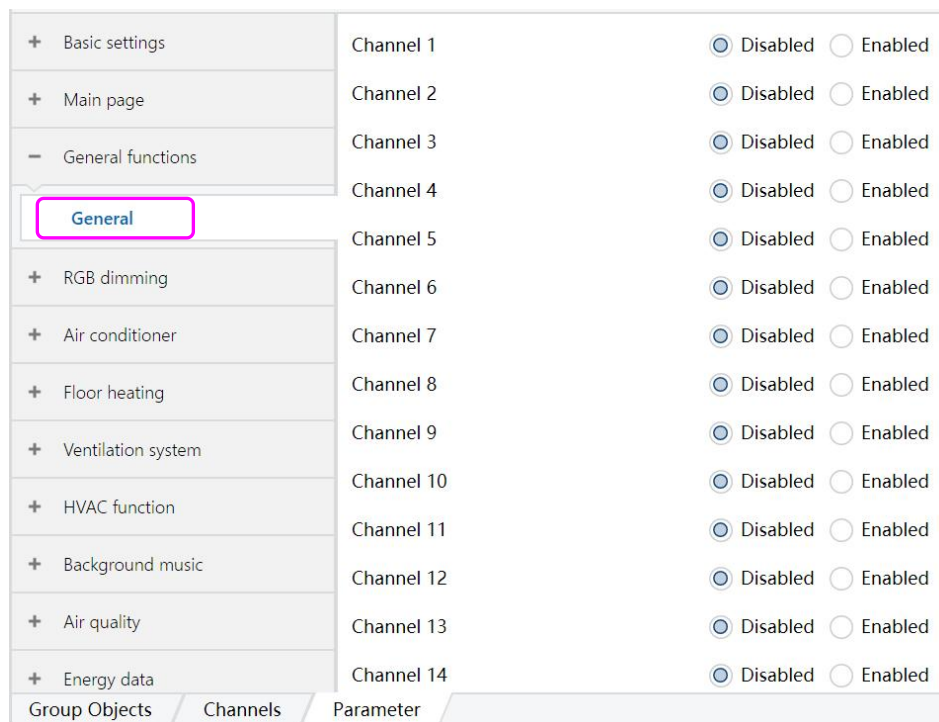

Figure 6.3.1
(1) Click the option in the red box below to set the relevant parameters, as shown in Figure 6.3.1